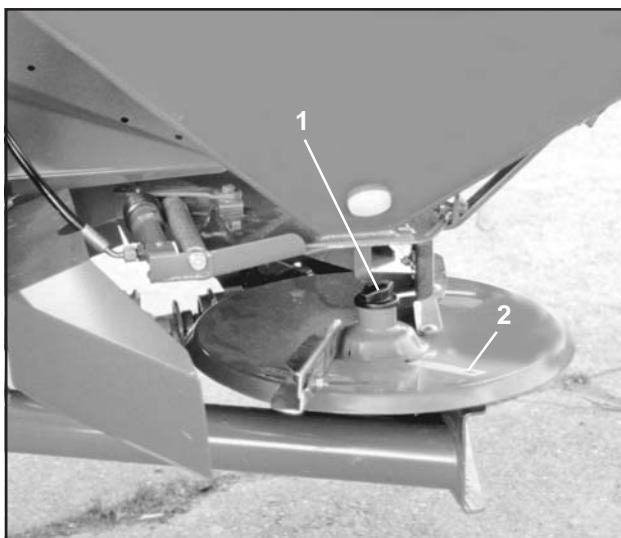

Fig. 7.30
- Remove thumb nut (Fig. 7.30/1).
When setting up spreading disc do not mix up "left hand" and "right hand". The spreading discs are marked with decals accordingly (Fig. 7.30/2).